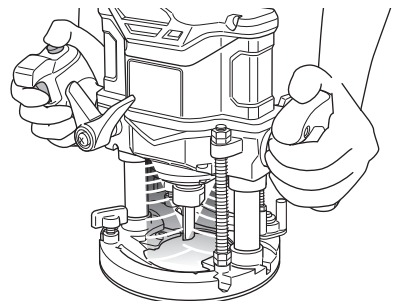

**Fig. 32**
5. **LED light warning signals (Fig. 32)**